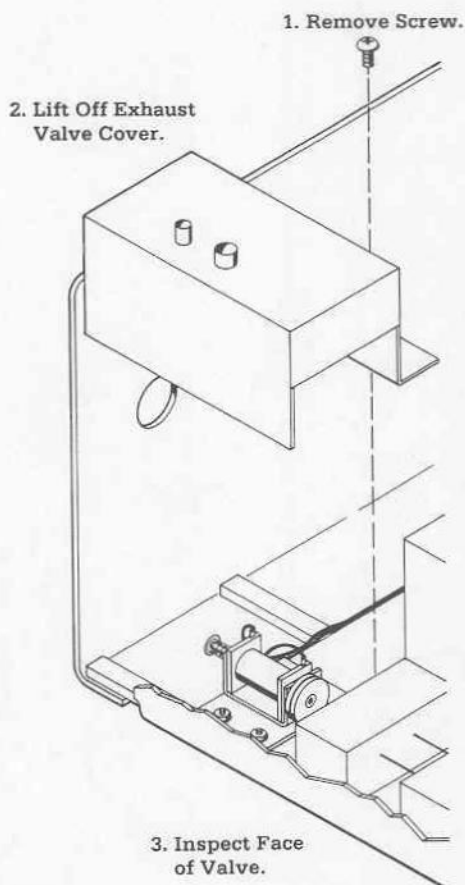

Figure 4-14
7. Remove the exhaust valve cover, (Figure 4-14).